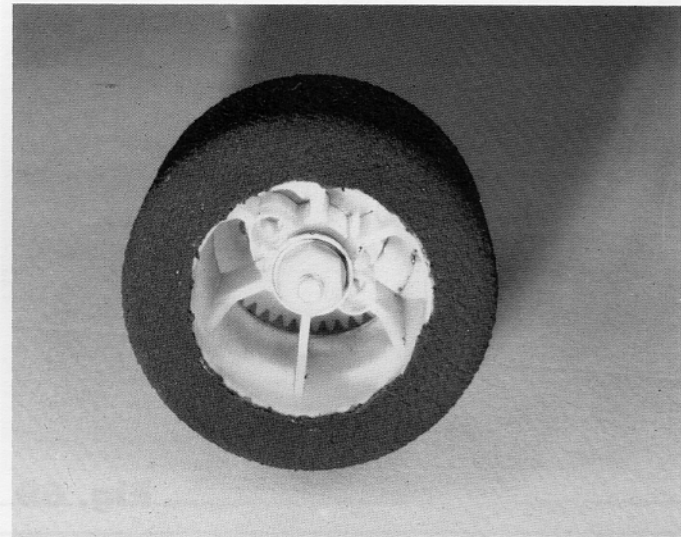

**Fig. 64**
□ **Fig. 64**—Slip another drive ring onto the axle and then slip the wheel spacer on. You'll have to center the drive ring so that the wheel spacer will seat correctly.